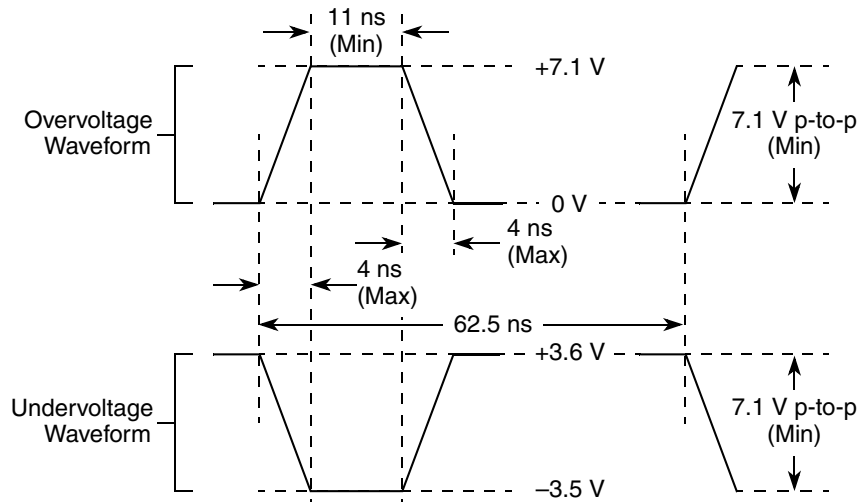

Figure 3. Maximum AC Waveforms on PCI Interface for 3.3-V Signaling
- 6  $OV_{IN}$  on the PCI interface can overshoot/undershoot according to the PCI Electrical Specification for 3.3-V operation, as shown in Figure 3.
Figure 3 shows the undershoot and overshoot voltage of the PCI interface of the MPC8347EA for the 3.3-V signals, respectively.